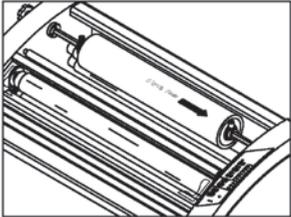

Figure 7
- 1. Slightly slide the upper film shaft to the right and pull it out from the machine. (Fig. 7)